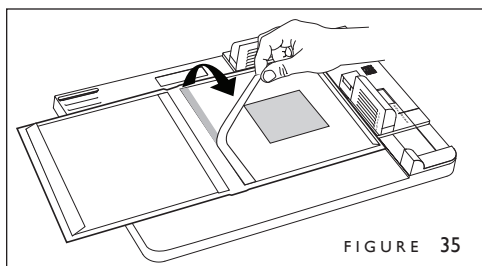

FIGURE 35
3. Place an empty Fastback Photobook Hardcover, adhesive side up, in the Hardcover Guide with the window on the right, and clamp in place. The top and right edges of the cover should be under the translucent green stops. If the book width is C or greater, you may use the green plastic inserts to ensure that the book block does not shift during binding. Remove the narrow release paper from the right panel (window side) of the Fastback Hardcover, exposing a small portion of the super-strong binding adhesive that coats the interior hard covers. (Figure 35).